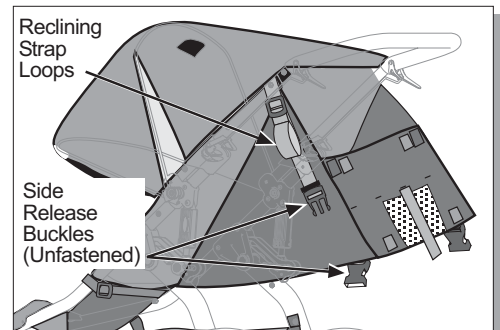

Fig. 23 Seat in fully reclined position. (single seat shown)
- To fully recline seat, unfasten side release buckles at seat back. (Fig. 23)
- ⚠ **WARNING: When seat is fully reclined, (Fig. 23) backward tip-over is more likely, and may result in an accident or injury, as seat and/or passenger may contact ground before handlebar.**